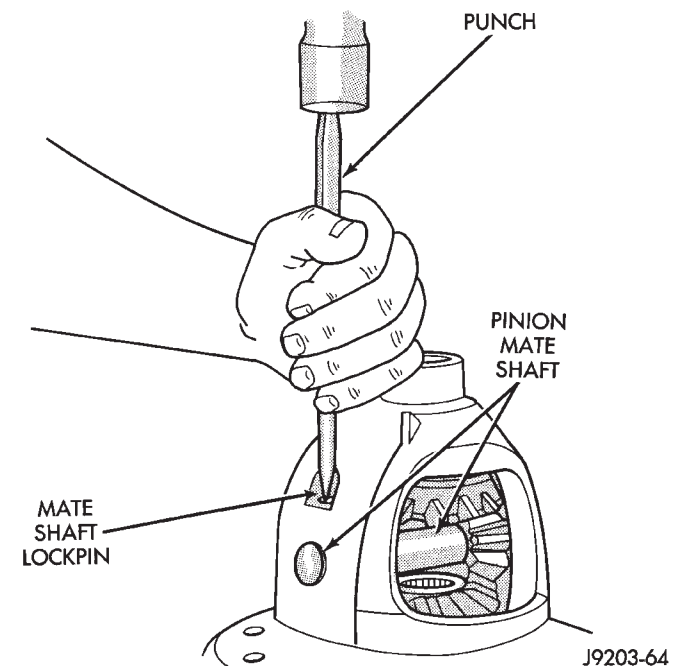

Fig. 42 Mate Shaft Roll Pin Installation
- (1) Install the differential side gears and thrust washers.
- (2) Install the pinion mate gears and thrust washers.
- (3) Install the pinion gear mate shaft. Align the roll pin holes in shaft and the differential case.
- (4) Install the roll pin to hold the pinion mate shaft in the differential case (Fig. 42).
- (5) Install the ring gear.
- (6) Lubricate all differential components with hypoid gear lubricant.